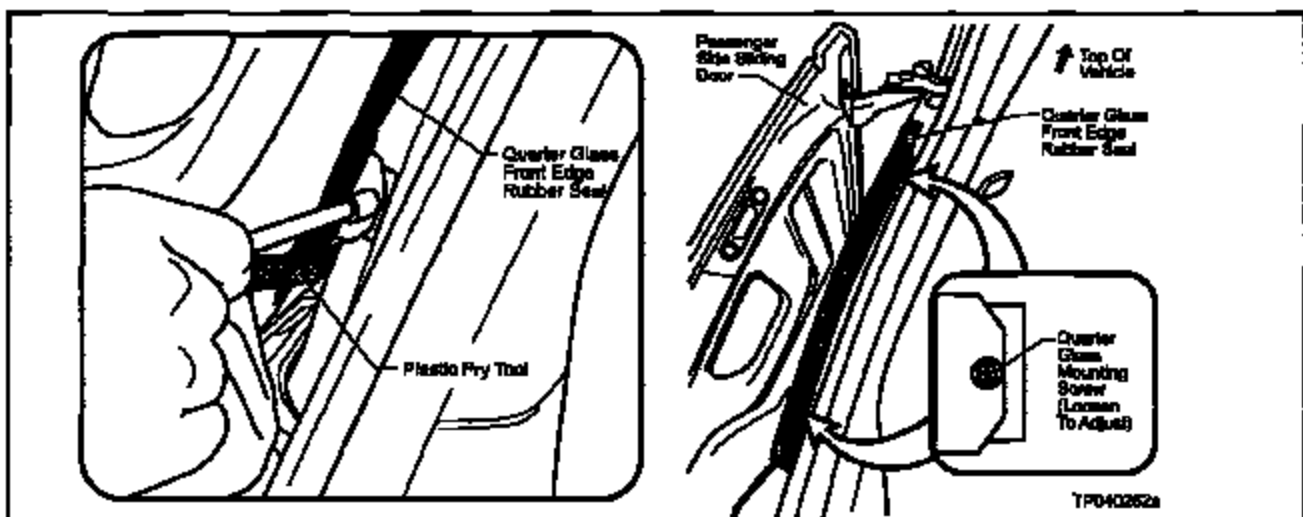

Figure J34
- If the Rear Quarter Glass is not flush with the Sliding Door, loosen the two Quarter Glass Mounting Screws (under the Quarter Glass Front Edge Rubber Seal – see Figure J34) and adjust the Glass for proper flushness. Use a Plastic Pry Tool to hold the glass out while tightening the Mounting Screws (see Figure J34). Tighten the Quarter Glass Mounting Screws to 2.0 – 3.0 N-m (17.7 – 26.5 in-lb).